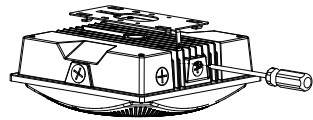

Figure 3
1. Take off the plate of the led fixture (Figure 3).